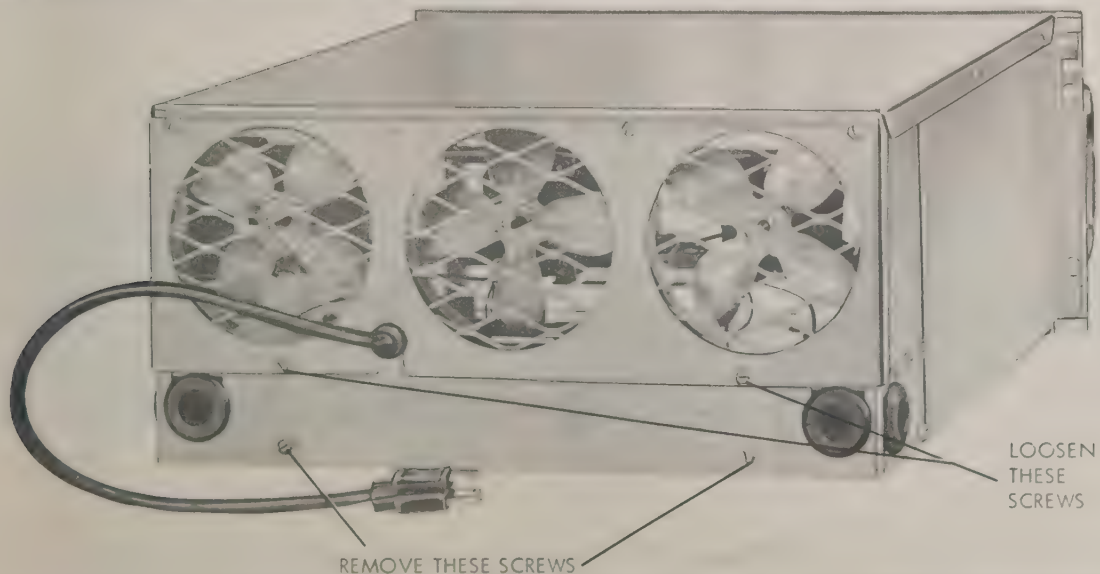

Figure 1-8. Model 190 Module, Rear View
sized and drilled for mounting in a standard 19-inch rack, to which it is secured by standard mounting screws. It receives the amplifiers as drawers, and insertion is guided by the mating of an alignment slot in the bottom of the amplifier with a metal tab which is located on the inner floor of the module, thus directing the union of the electrical connectors on amplifier and module. The module connectors are mounted on a panel in the rear of the module (Figure 1-6) and are accessible for wiring modifications or service checks by the removal of a cover panel (Figure 1-8).
meted openings at the four lower rear corners provide for passage of input and output cables which are terminated at the respective pins of the amplifier connectors at the time of installation. See Figure 1-8.
- a. Place the Model 190 module on a bench, rear side out (see Figure 1-8).